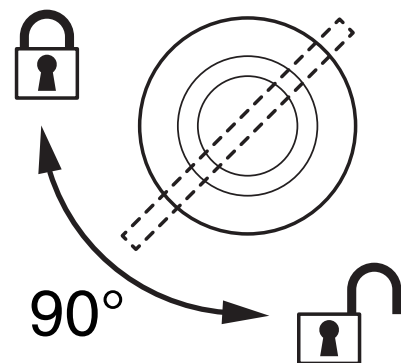

Figure 5: Locking 1/4-turn fasteners
4. Align the first clamp and bracket with 2 mounting points in the base. See Figure 5. Insert the clamp bracket's fasteners into the base and turn both levers a full 1/4-turn clockwise to lock. Repeat for the second clamp.